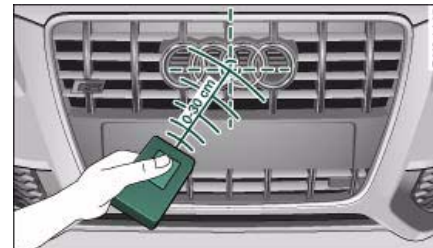

Fig. 161 Radiator grille ►
centre of your car's radiator grille ⇒ *page 145*, fig. 161.
- Hold the **original hand-held transmitter** for the garage door opener or other device directly in front of the radiator grille of your vehicle (at or near the centre) ⇒ *page 145*, fig. 161. The exact distance depends on the system that you want to program.